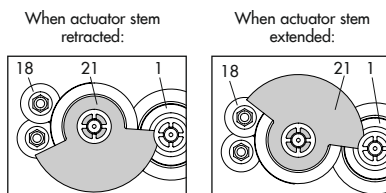

Fig. 5-8: Contact cam unit
8. Slide the contact cam unit (21) onto the spindle corresponding with the position of the actuator stem as illustrated in Fig. 5-8. Make sure that the outermost cog of the contact cam unit engages in the gearwheel of the intermediate gear (1). In addition, the adjustment gears (18) must engage properly in the corresponding gears of the contact cam unit (21).
9. Secure the contact cam unit (21) and intermediate gear (1) with the serrated ring (3); push down the serrated ring as far as it will go.
10. Position the terminal board (17) at the base of the support at a 45° angle (approx.) with the switches pointing towards the gears. Swivel the upper end of the terminal board towards the gears until the board is in a vertical position and properly engaged in the support.
11. Slide the actuator board (12) back into its guiding. Make sure that **all** the gears are properly engaged. Fasten the board using screws.